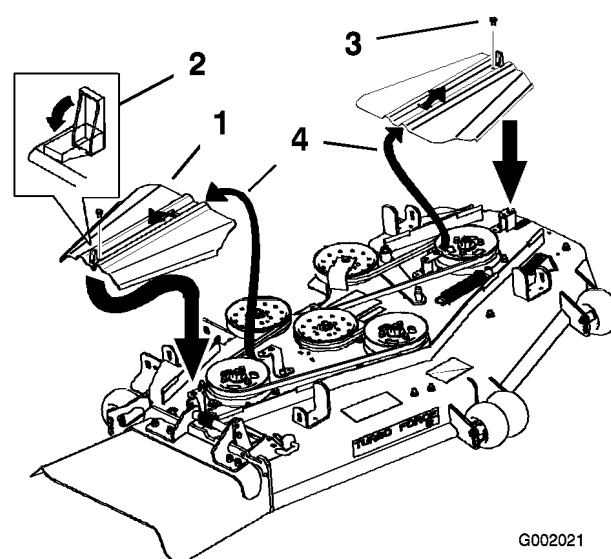
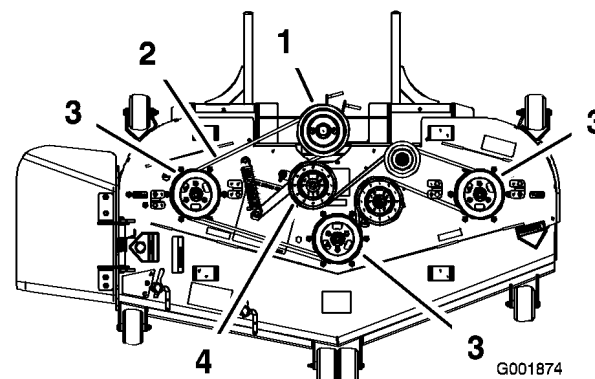
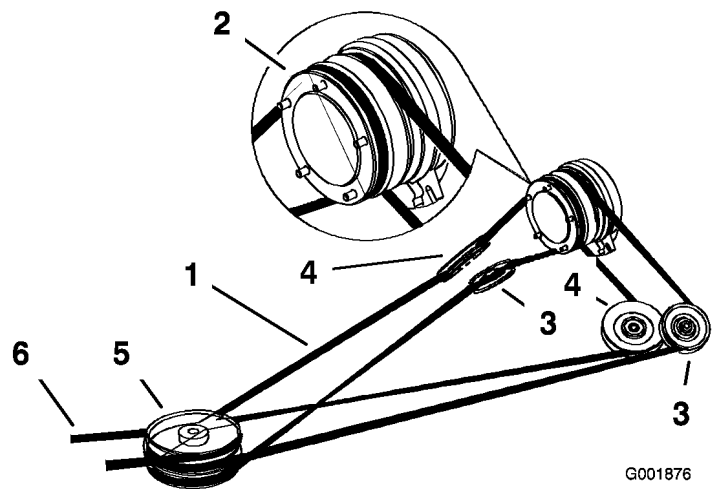

Figure 59
Figure 60
Figure 62
- Remove the mower belt from the mower pulleys and the top pulley of the three stacked pulleys (Figure 59 and Figure 60).
- Install the new belt around the mower pulleys and the top pulley of the three stacked pulleys (Figure 59 and Figure 60).
- Pull on the spring loaded idler arm to loosen the belt tension and align the mower belt onto the idler pulley (Figure 60).
- Install the belt covers with the tabs in the slots. Install the screws and close the latches (Figure 59).
- Remove the screws and belt covers (Figure 59).
4. Pull on the spring loaded idler pulley to loosen the belt tension (Figure 62).
5. Remove the mower belt from the top pulley of the three stacked pulleys (Figure 60 and Figure 62).
7. Install the new drive belt around the clutch pulley, the adjustable idler pulleys, the spring loaded idler pulley, and the front three stacked pulleys (Figure 62).
9. Install the mower belt around the mower pulleys and the top pulley of the three stacked pulleys (Figure 60 and Figure 62).